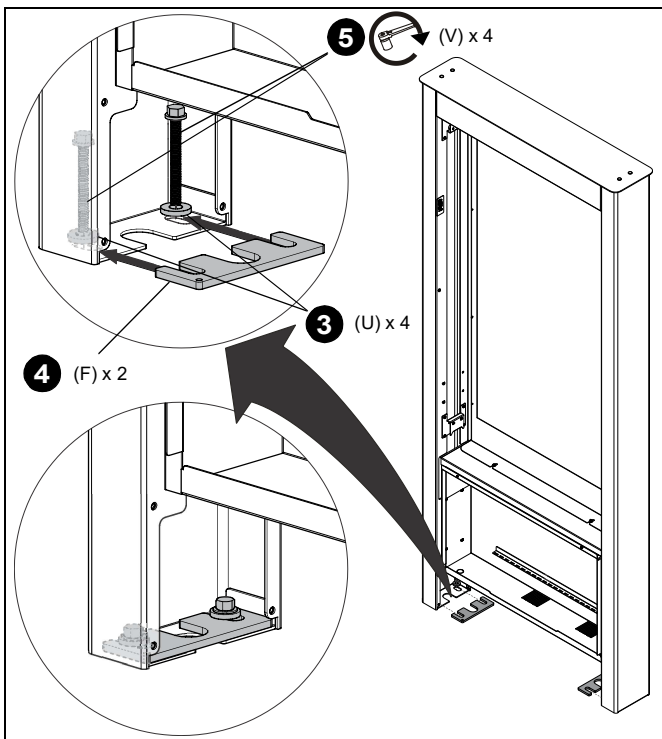

Figure 6
3. Insert a flat washer (U) onto the ends of four screw anchors (V) and insert into the four holes in floor.
4. Slide two washer plates (F) around the exposed bases of the screw anchors (V). (See Figure 6)
5. Tighten the screw anchors to 40 ft-lbs. (See Figure 6)